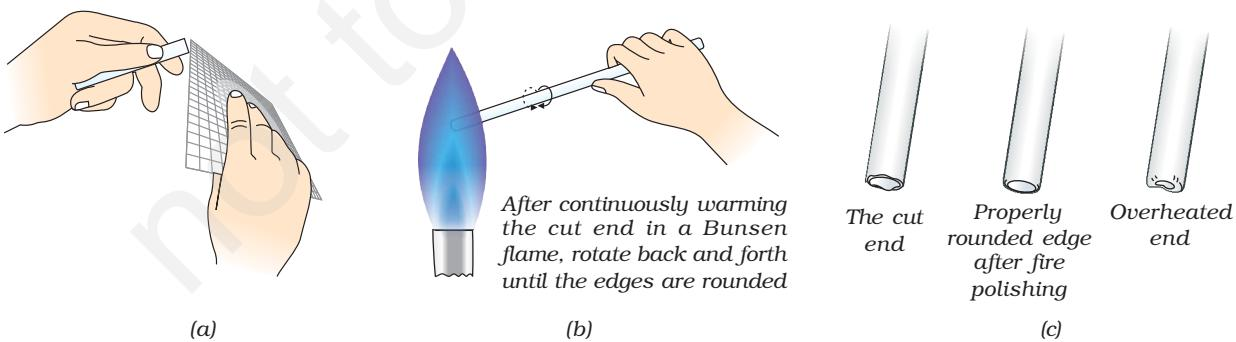

Fig. 2.2 : (a) Trimming the jagged edges
- (v) Trim any jagged edge by striking with a wire gauge (Fig. 2.2 a).
- (vi) Heat the freshly cut edge of the tube gently in the flame to make the edges round and smooth (Fig. 2.2 b). This is called fire polishing. First continuously warm the cut end in the Bunsen flame and then rotate it back and forth until the edge is rounded. Too much heating may distort the rounded edge (Fig. 2.2 c).